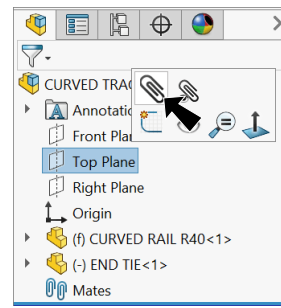

Fig. 5
Step 1. Click **Top Plane**  in the Feature Manager and **Mate**  on the context toolbar, **Fig. 5**.